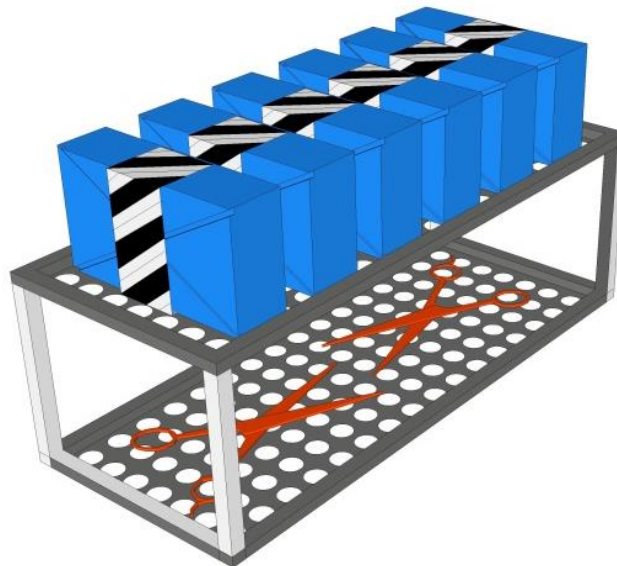

Figure 9 – Proper loading of instrument and sterilization packages at the same time
- If sterilization bags and instruments are loaded together, then instruments should be placed at the bottom (Figure 9).